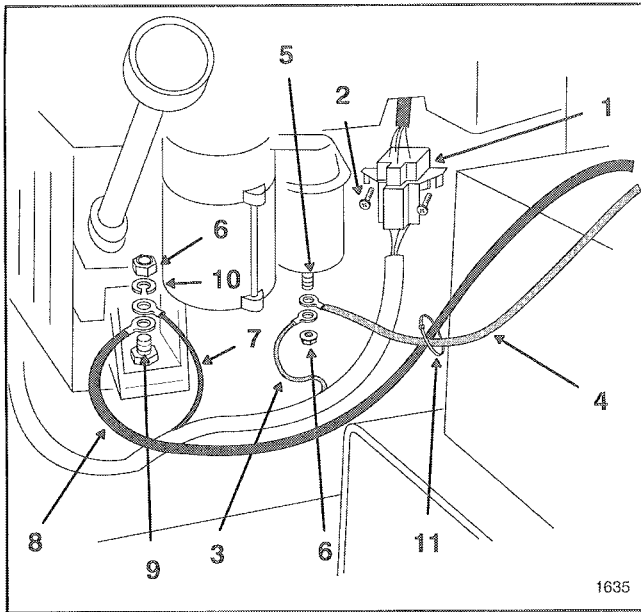

Figure 8
5. Route wire harness around right side of engine. Plug surface-mount plug into engine plug, in front of starter. Secure wire harness plug to engine with screws. (Fig. 8).
6. Attach red wire ring terminal and positive, red battery cable to lower terminal of starter solenoid. Secure with flange nut (Fig. 8).
7. Attach black wire ring terminal and negative, black battery cable to right rear engine mounting bolt with lock washer and second nut (Fig. 8).